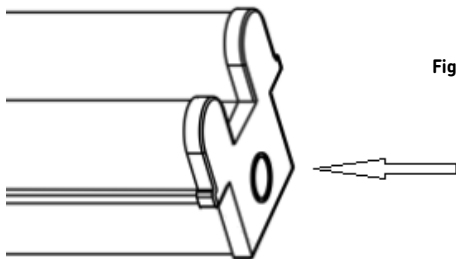

Fig. 1
- Drill or knock out a 20mm hole on the side of the fitting to be used (see Fig. 1)